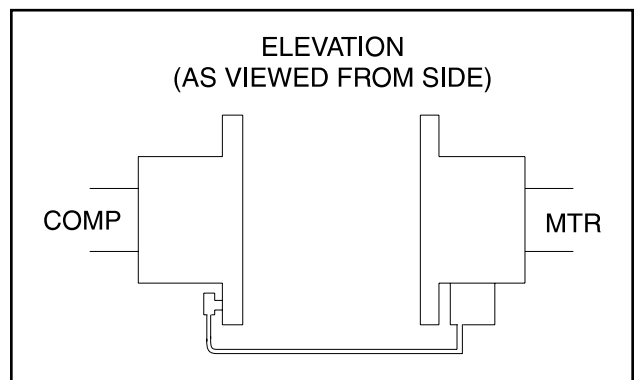

Figure 3 - Dial Indicator At 6 O'clock
4. Rotate both coupling hubs together 180° (6 o'clock position), as shown in Figure 3. At this position the dial indicator will show TOTAL angular misalignment.